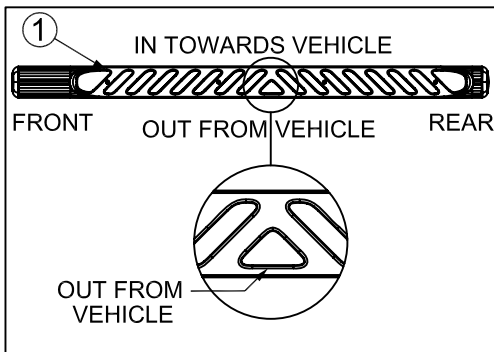

Fig. 3
a.) Position step rail on brackets with the mounting holes on the tube aligned with the mounting holes on the brace. Make sure the tube is oriented as shown in Fig. 3. The bottom edge of the triangle in the step pad faces away from the vehicle.
b.) Secure step rail to each bracket with two (2) M6 bolts, but do not fully tighten.